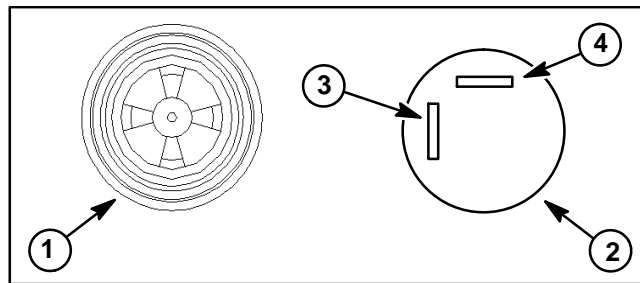

Figure 62
3. Disconnect wire harness connector from alarm. Correctly connect 12VDC source to the alarm terminals (Fig. 62). Alarm should sound.